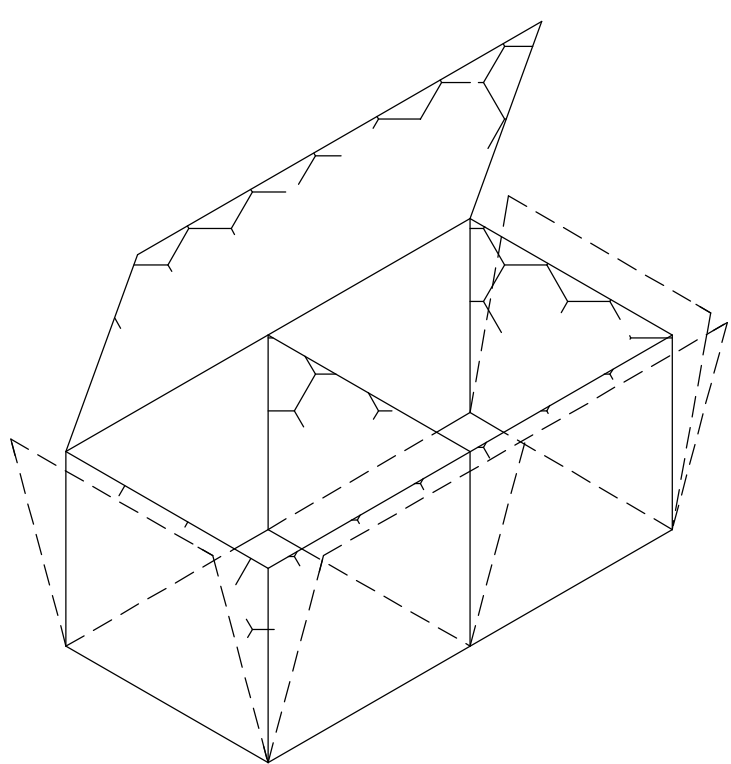

FIGURE 4
2. LIFT THE FRONT, BACK AND END PANELS INTO AN UPRIGHT POSITION TO FORM AN OPEN BOX (FIGURE 4)